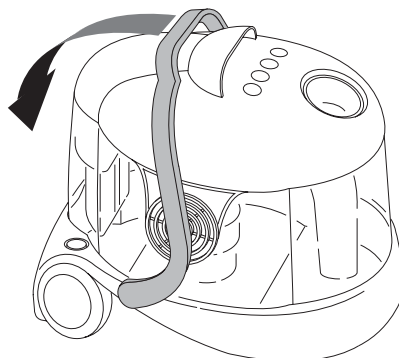

fig. 1
- Completely lower the handle that blocks the motor head **T** (Fig. 1).